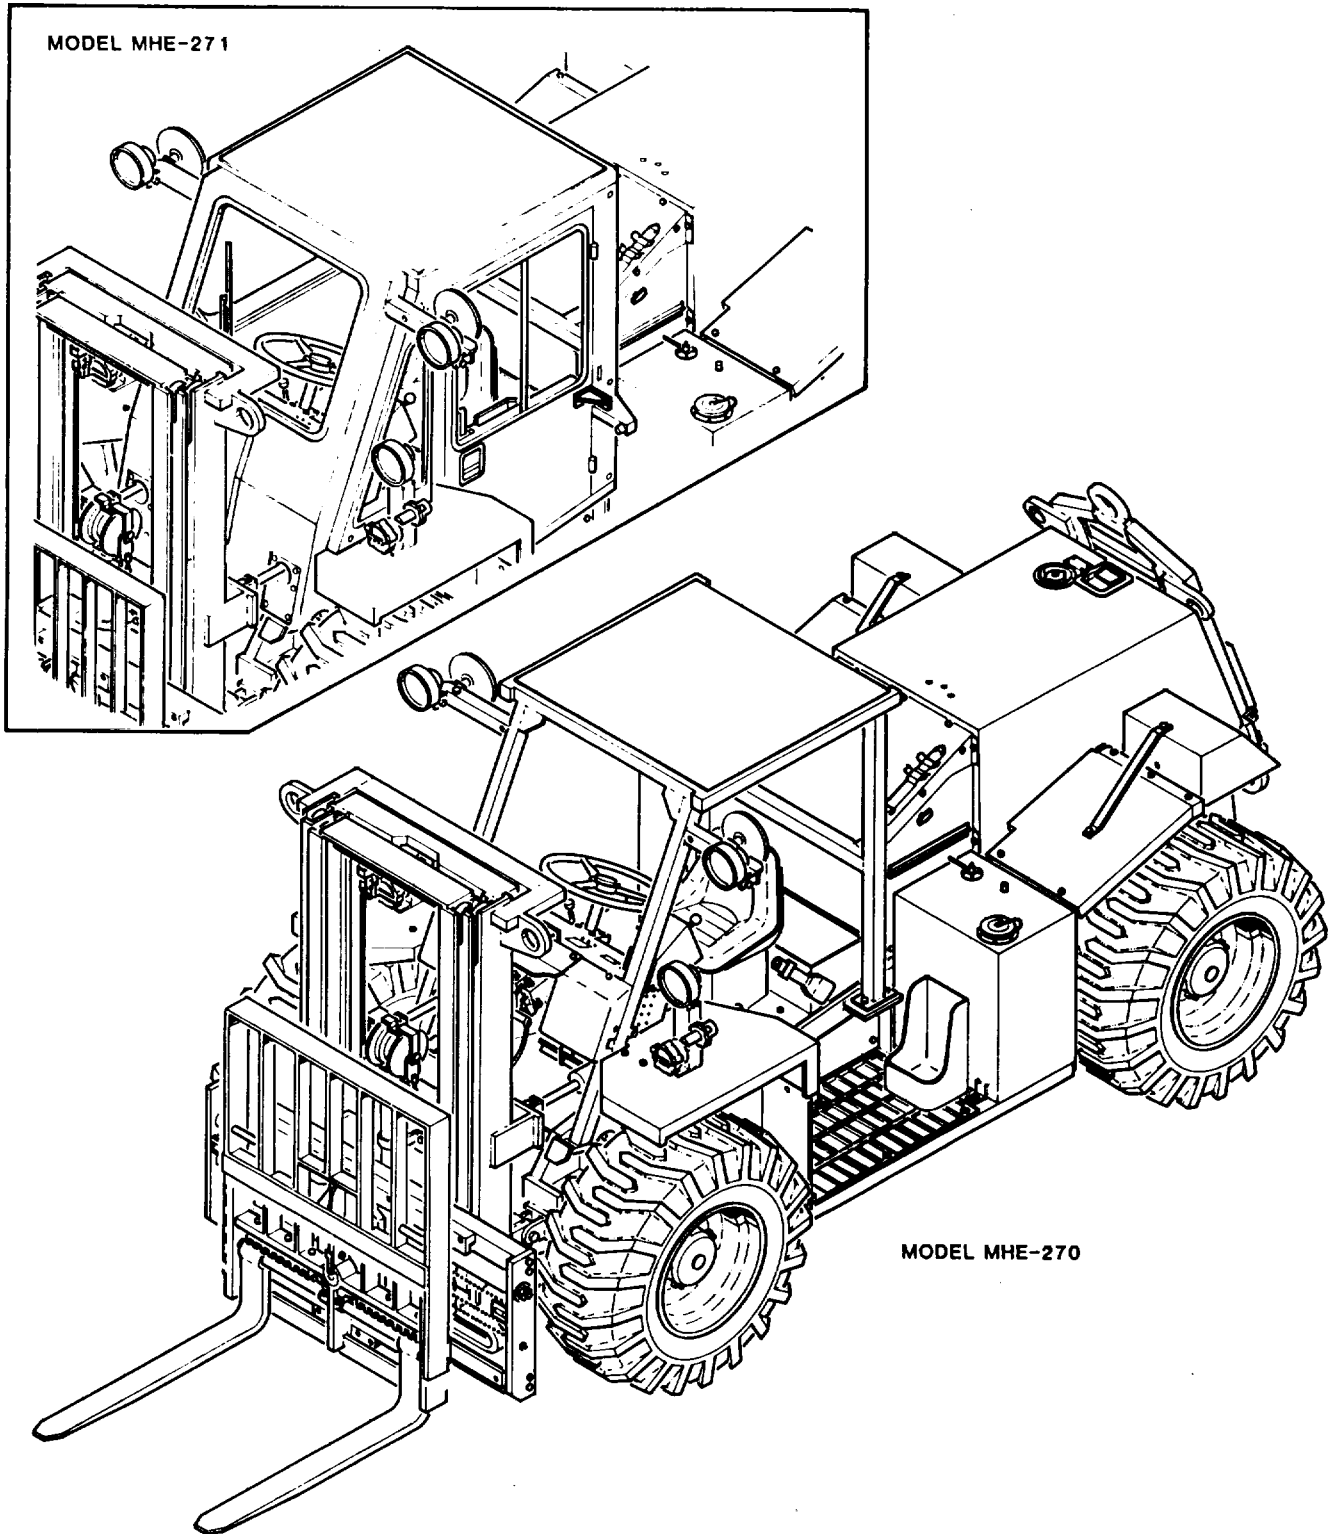

Figure 1-1. 4000 Pound Capacity Rough Terrain Forklift Truck, Models MHE-270 and MHE-271
a. This manual is combined Unit, Direct Support, and General Support maintenance manual for the 4000 Pound Capacity Rough Terrain Forklift Truck, 4K RTFL, Models MHE-270 and MHE-271, Figure 1-1 (hereafter referred to as forklift).